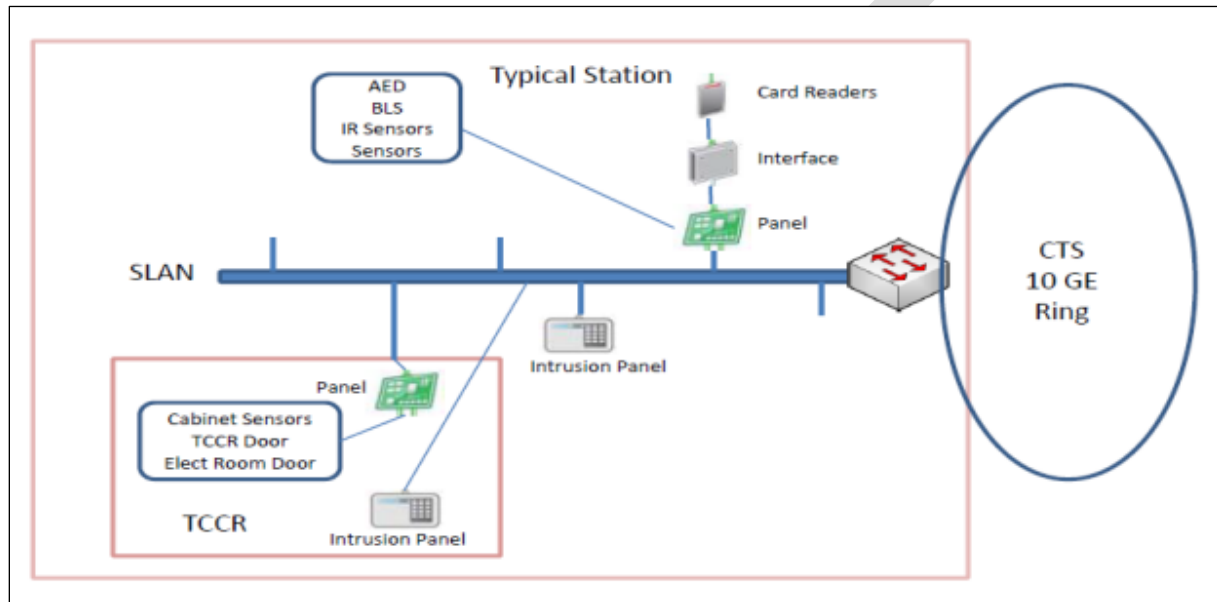

Figure 4. ACS: Typical Station Layout
Figure 4 provides a view of the station layout. Access control devices for a typical station include card readers, an interface, and an access control panel. Depending on how the panel is configured, it can send alerts for an automated external defibrillator (AED), Blue Light Station (BLS) telephones, Infrared (IR) sensors, or door sensors. Access control devices for TCCR include an intrusion panel and control panel configured for cabinet sensors, TCCR door, or an electric room door. The communication is transmitted along a SLAN to an access-controlled door, whether it's a one-way or two-way door.